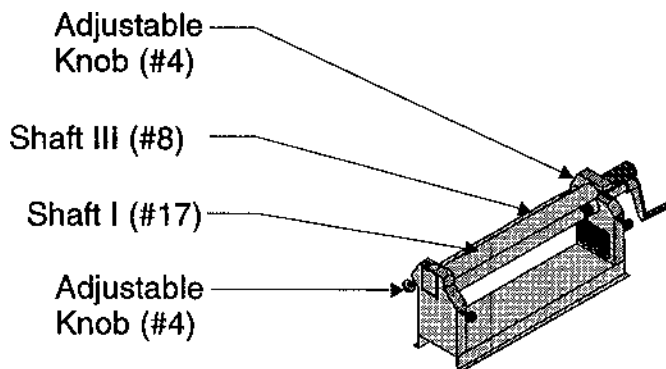

Figure 2 -- Adjusting the Roll Gap
2. To increase the gap between SHAFT I and SHAFT III (#8) to increase the diameter of your rolls, screw out the ADJUSTMENT KNOB (#4). For smaller diameter rolls, screw the KNOB in. For even rolls, adjust both KNOBS an equal amount. To create cones, adjust one side more than the other. See Figure 2.